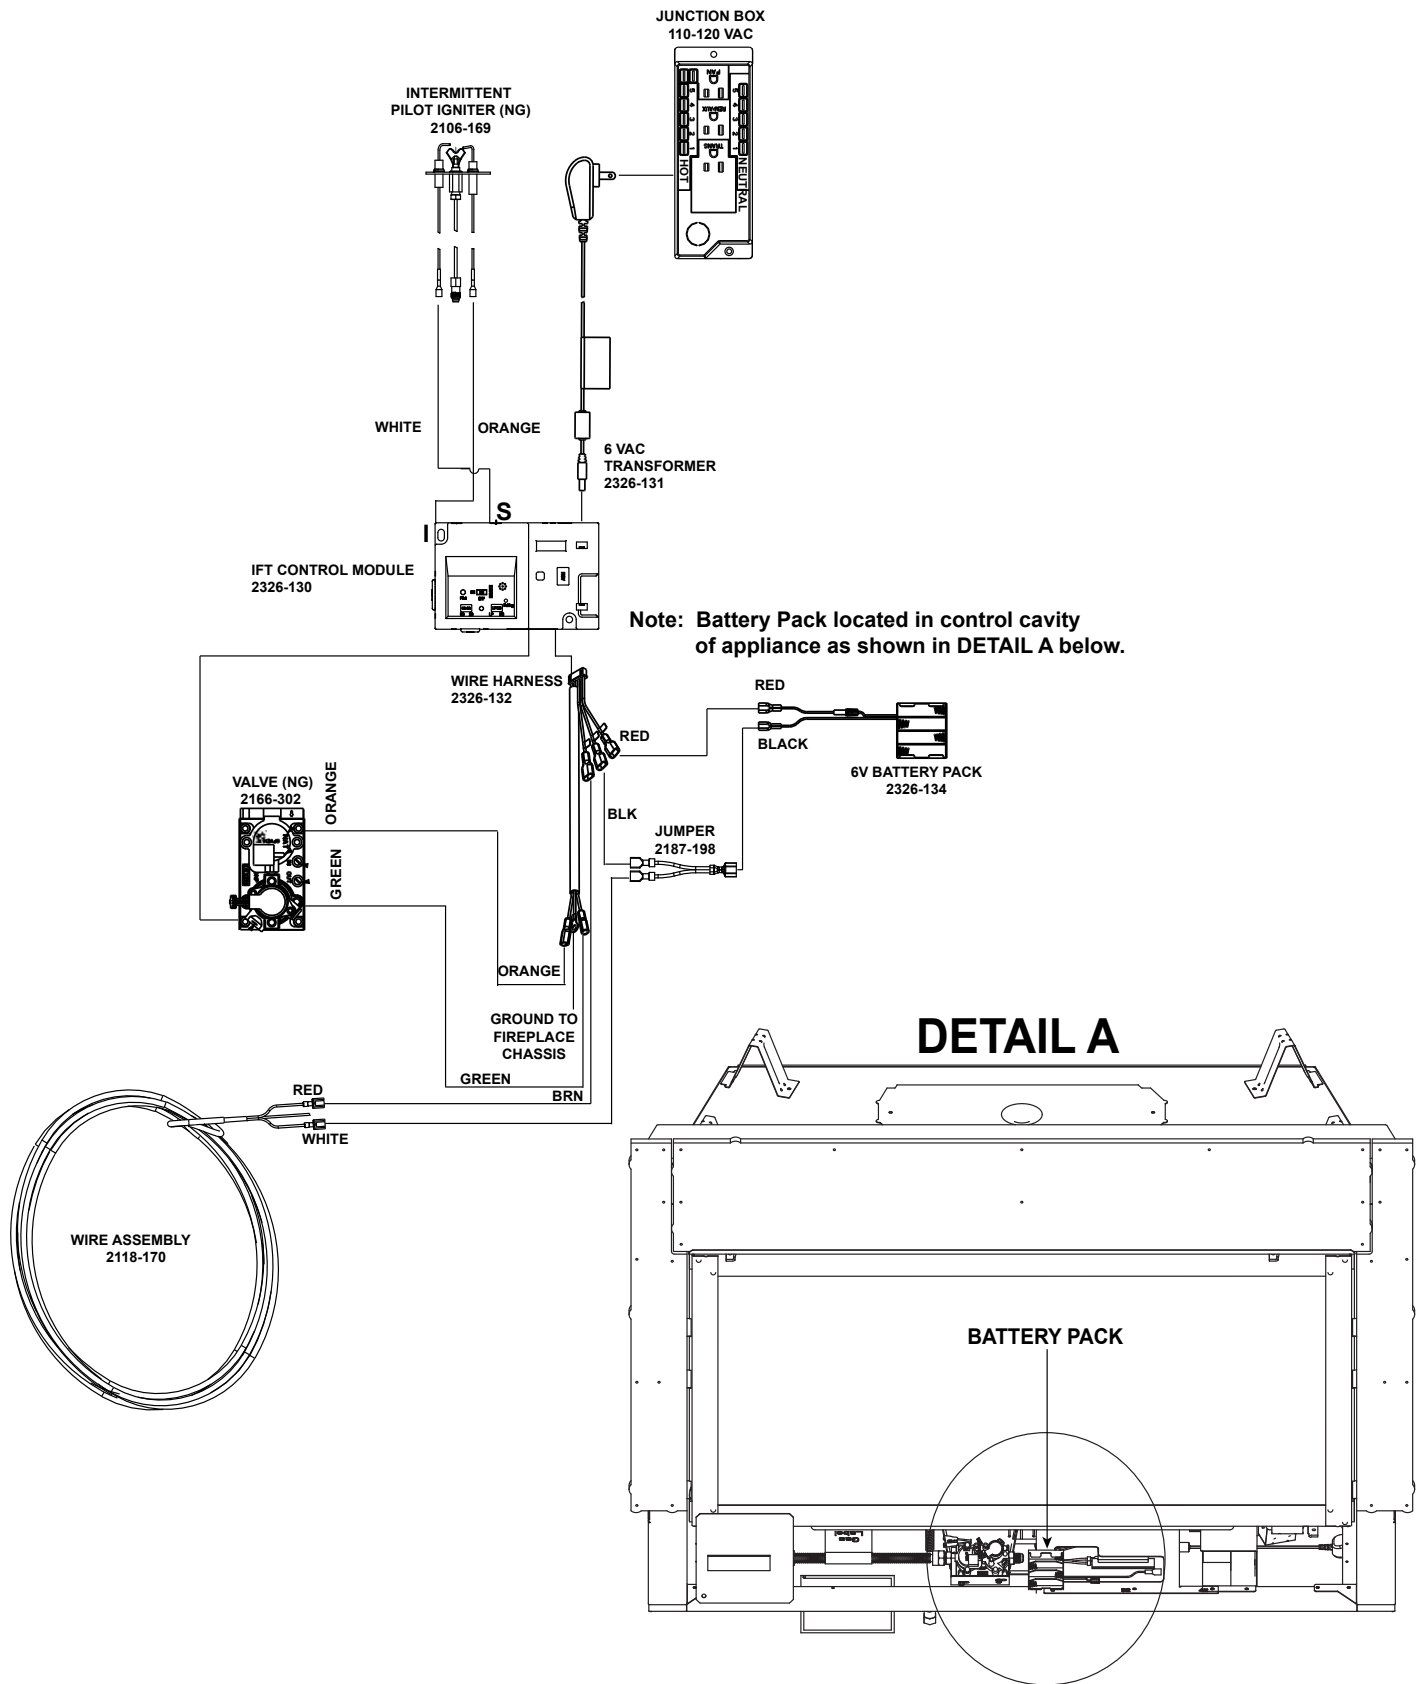

Figure 8.5 Intellifire™ Touch Wiring Diagram - Standard
- Refer to Figures 8.5, 8.6, and 8.7 wiring diagrams.